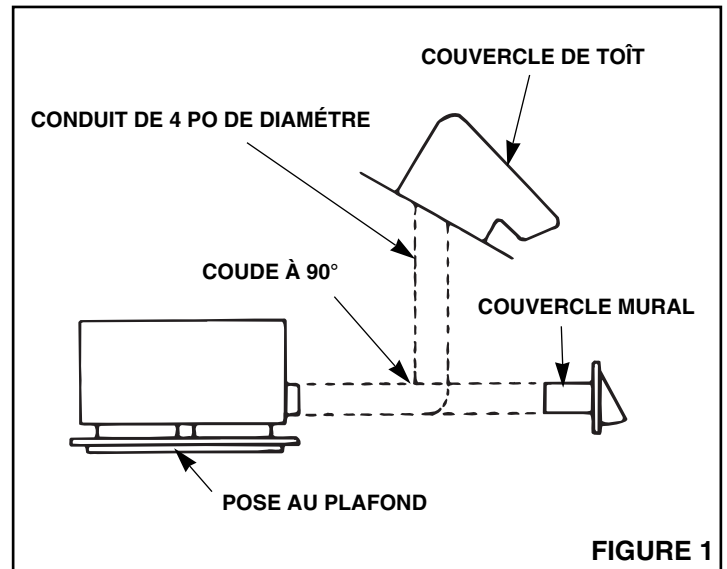
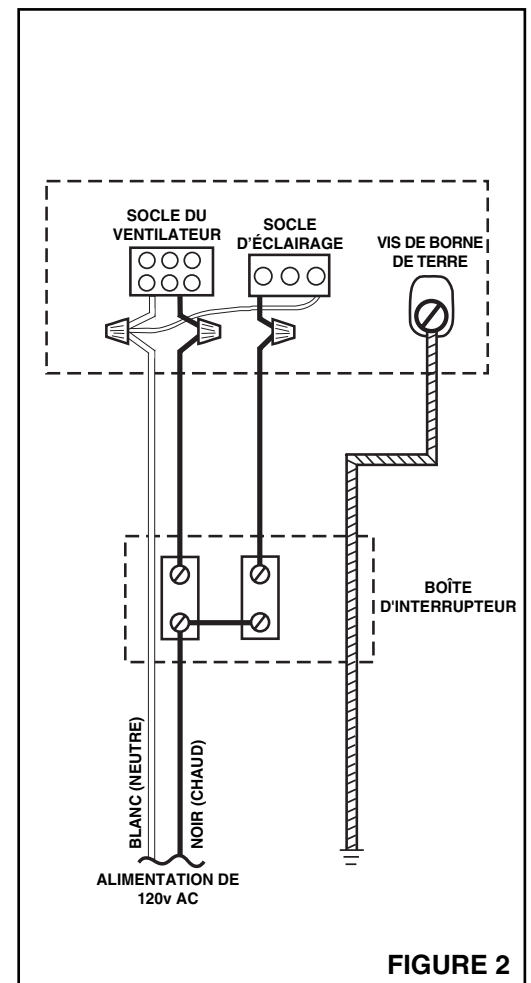

FIGURE 1
FIGURE 2
4. Refer to Figure 1. Use 4" round duct to discharge the ventilator to the outside.
Refer to Figure 2.
**Wiring and Ducting** – plan ducting and wiring before proceeding with installation. Refer to Figure 2 for wiring and Figure 1 for ducting. **CAUTION: Check area above planned installation to be sure that the ducting can be installed, wiring can be run to the planned location and that wiring or other obstructions will not interfere with the installation.**
- Voir Figure 1.** Utiliser un conduit rond de 4 po comme décharge extérieure pour le ventilateur.
**Voir Figure 2.**
**Voir Figure 2 pour les raccords et Figure 1 pour les conduits.**